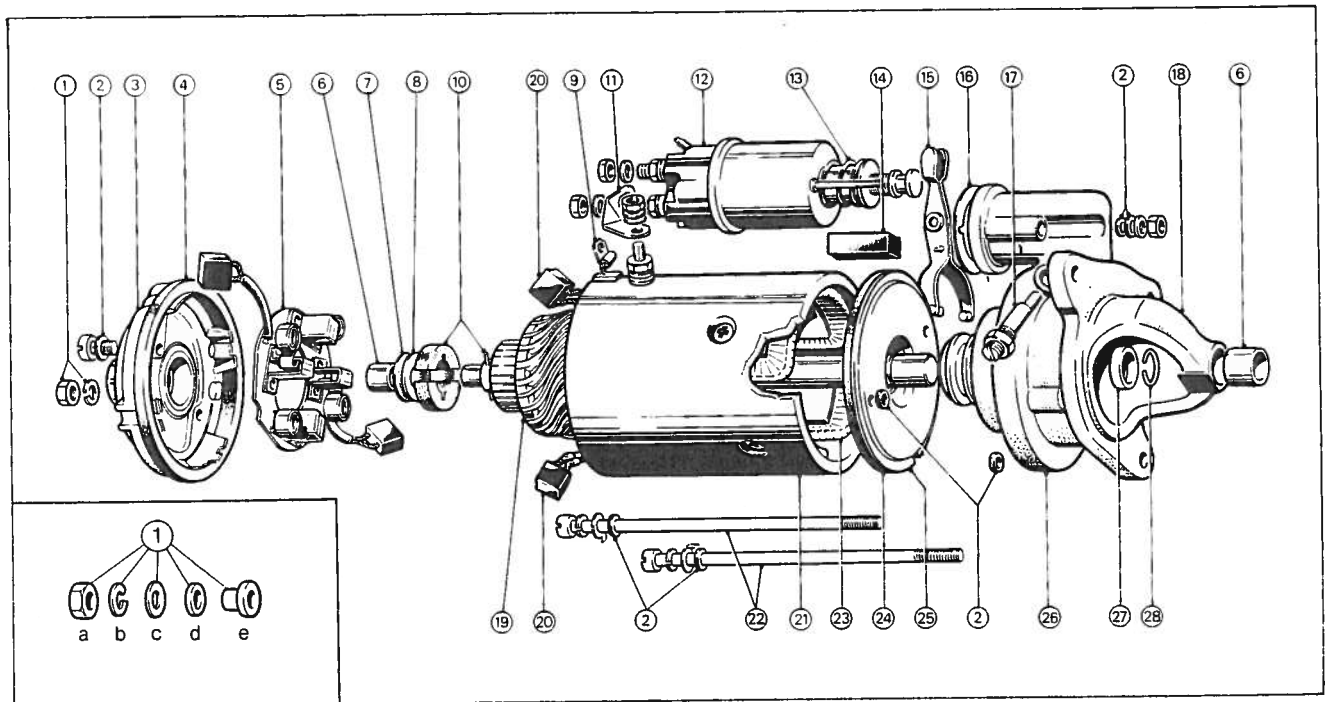

Fig. 66 Starter, dismantled. Inset shows different negative terminal components for marine version
4. At both ends of the through bolts, at the earthing stud, solenoid fixing studs and brush gear plate securing screws in the outer face of the commutator end cover see Fig. 66.
The pre-engaged starter (Fig. 66) is a four pole four brush machine of 127 mm (5 in) diameter, having a solenoid operated, roller clutch drive. The solenoid incorporates two sets of contacts which provide two-stage switching. When the starter is operated the pinion moves into full engagement with the engine flywheel ring-gear and the first and second stage contacts of the solenoid close simultaneously, connecting all four field coils of the starter to the battery; full cranking torque then develops. On occasions